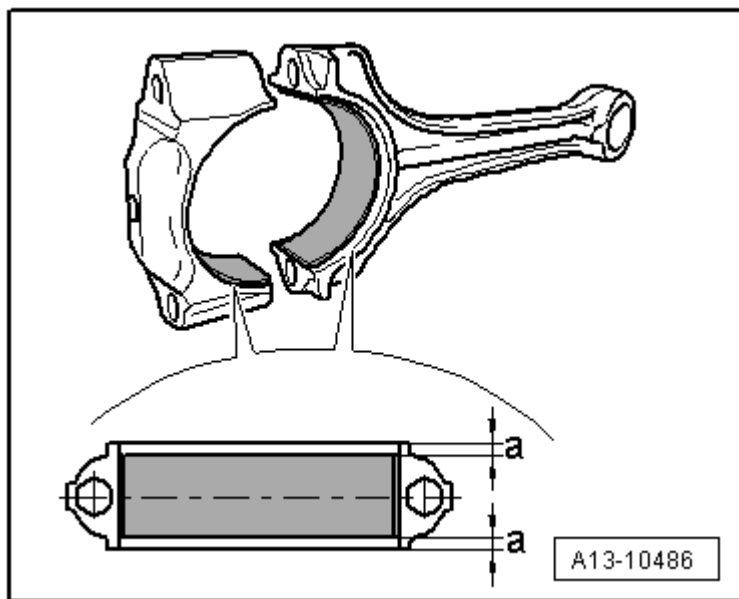

Fig. 19: Identifying Installed Position Of Bearing Shell
- Note the installed position, refer to **Fig. 19**.